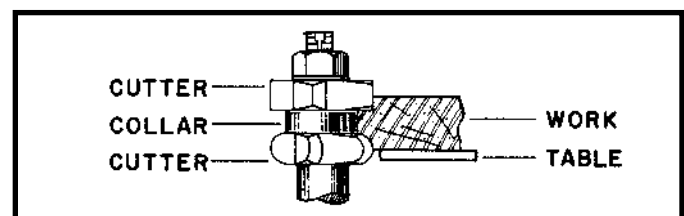

Fig. 69
4. The collar between cutters method (Fig. 69) utilizes the advantages of the first two methods and is frequently used when both edges of the workpiece are to be shaped.